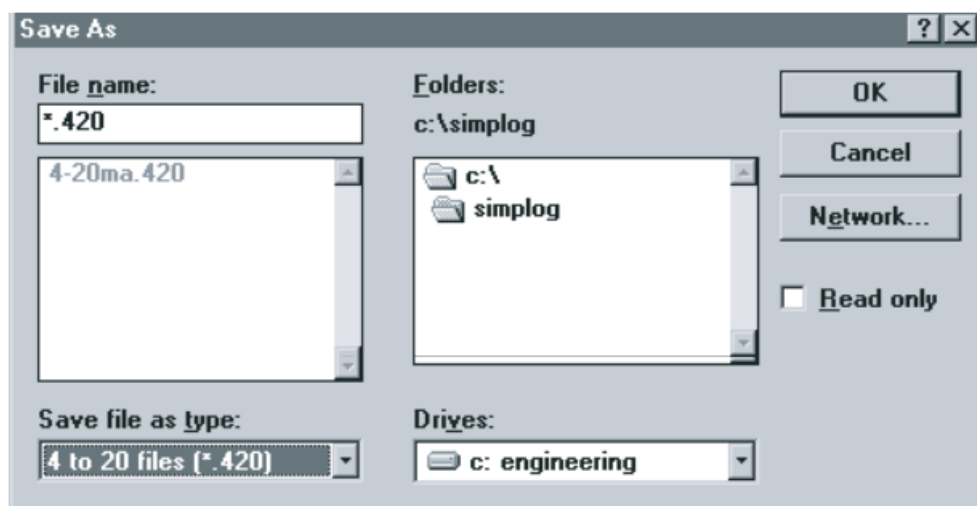

Figure 7
- If you click Yes, a dialog box will open similar to Figure 7 where you can type in the name (up to 8 characters) you wish to use for the file.